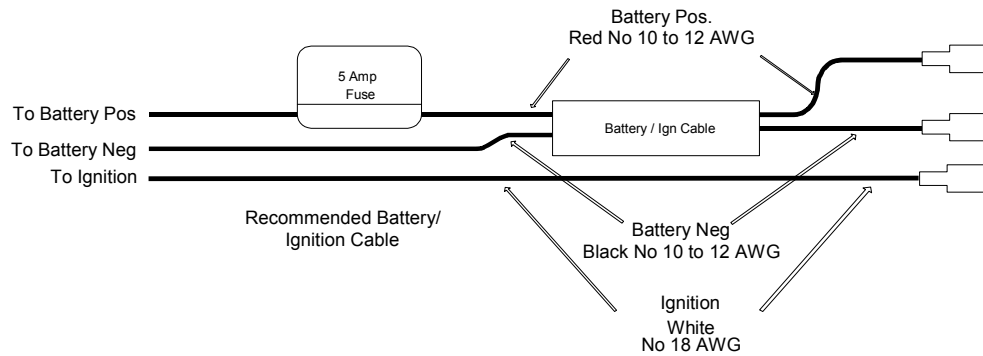

Figure 6. Power Extension Cable Installation Diagram
19. Install the fuse lead of the power extension cable (red, 10 to 12 AWG, lead) and connect to the positive battery lead or selected constant 12-volt power source (see figure 6).